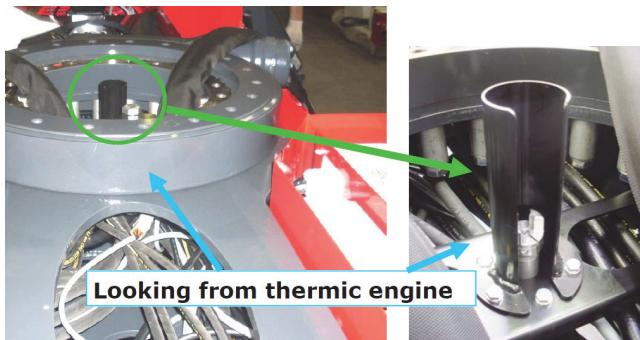

Figure 4-31.
- Install the protective cover over the rotation sensor assembly using 3-6x16M TE screws and washers. Install cover with the open slot facing the engine end of the machine. See Figure 4-31.